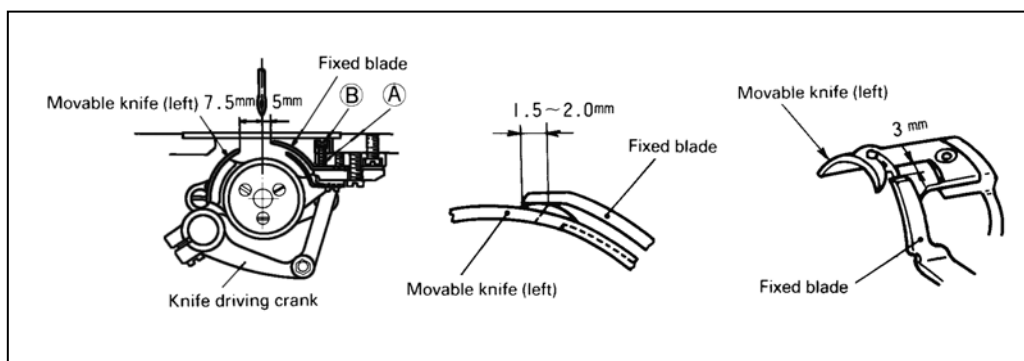

Fig.35
6) Adjustment of knife engagement (Fig.35):
See the Fig.35, the standard distances from the needle center are 7.5mm and 5mm from the movable knife (left) and fixed blade respectively.